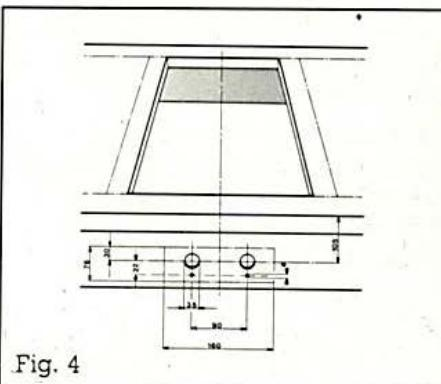

Fig. 4
- Following Fig. 4 and using a drilling template, prepare the bores, 35 mm diameter for fastening the control element and 4 mm diameter with 3 mm drilling depth for fastening the illuminated discs in the front of the lower cabinet (thickness of the work top max. 50 mm, otherwise the dimension of 105 mm has to be extended downwards accordingly).